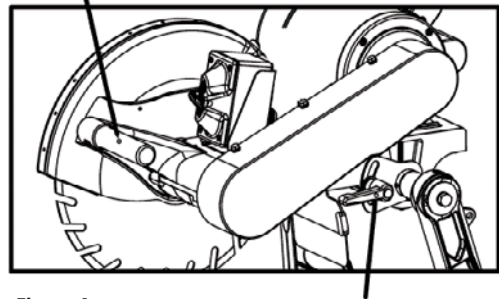

Figure 4
2. To adjust the VX141MSPROR's cutting depth, rotate the depth control knob counter-clockwise while holding the plunge handle *See Figure 4.* Only loosen the knob enough so the cutting head freely moves.